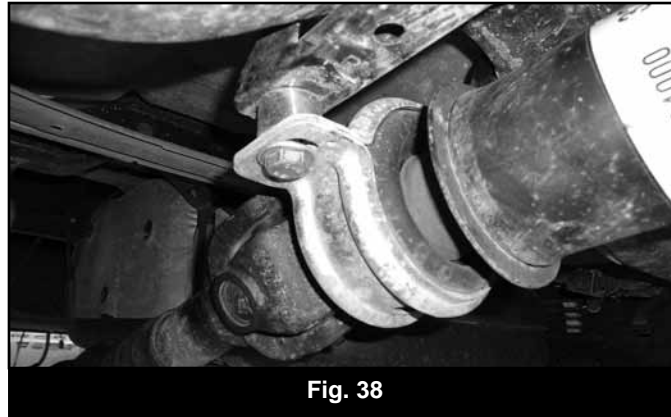

Fig. 38
85. 4" Rear Block Kit: Support the drive shaft. Remove the carrier bearing hardware and install carrier bearing drop with new 10mm x 50mm fully threaded bolts (Bolt pack #668). Crew cab long bed models will require (4) ½" USS washers per bolt to space the carrier bearing down. Crew cab short bed models will require (2) ¾" long spacers. Adjustments may need to be made to the drop to get the ideal height. These are starting references and may need to be adjusted to eliminate any driveline vibrations.
86. 3" Rear Block Kit: Support the drive shaft. Remove the carrier bearing hardware and install carrier bearing drop with new 10mm x 50mm fully threaded bolts (Bolt pack #668). Crew cab long bed models will require (2) ½" USS washers per bolt to space the carrier bearing down. Crew cab short bed models will require (4) ½" USS washers per bolt. Adjustments may need to be made to the drop to get the ideal height. These are starting references and may need to be adjusted to eliminate any driveline vibrations. (Hardware is in #668) (Fig 38)